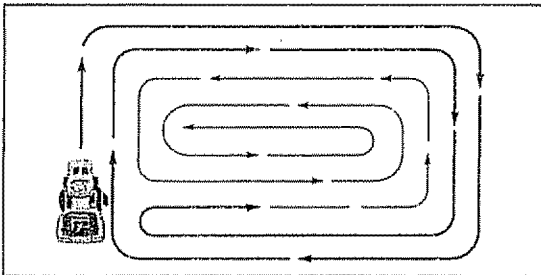

FIG. 13
- When mowing large areas, start by turning to the right so that clippings will discharge away from shrubs, fences, driveways, etc. After one or two rounds, mow in the opposite direction making left hand turns until finished (See Fig. 13)